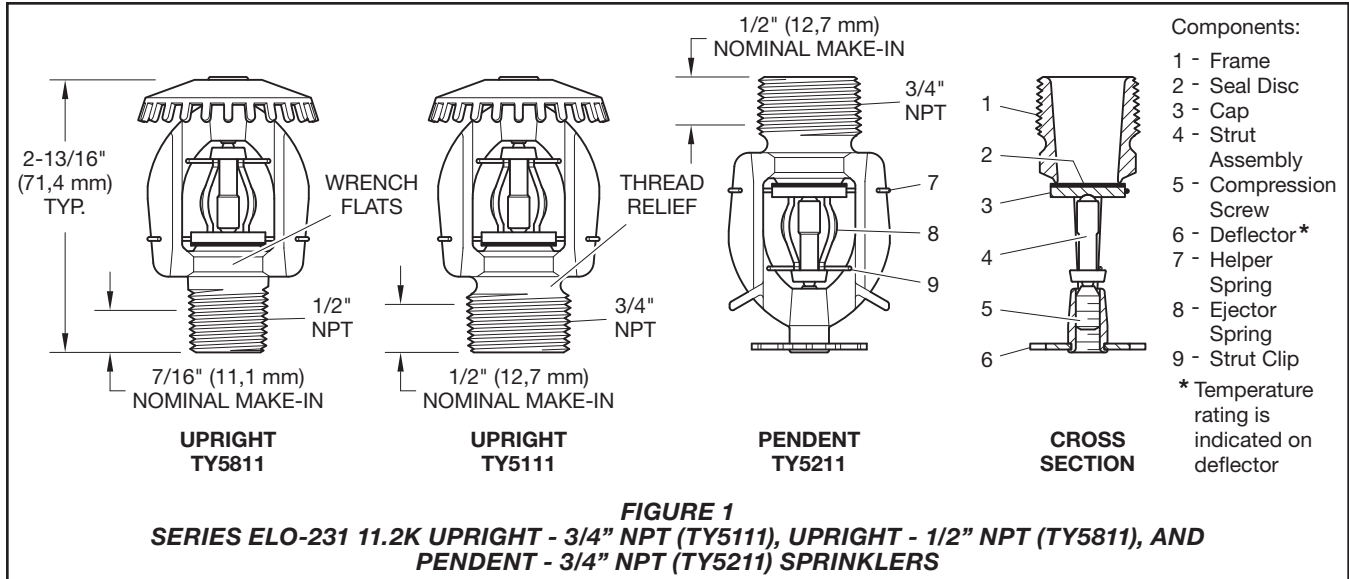
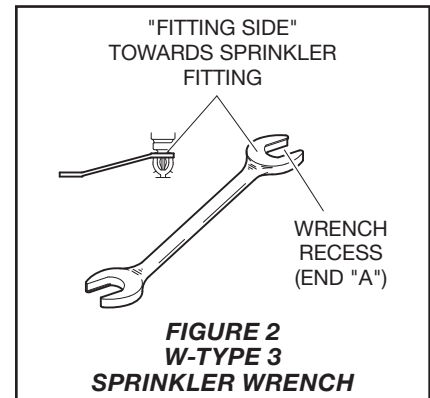

FIGURE 1
FIGURE 2
TYCO Series ELO-231 11.2K Standard Response, Standard Coverage Upright and Pendent Sprinklers (Ref. Figure 1) are automatic sprinklers of the fusible solder type. They are standard response, spray sprinklers that produce a hemispherical water distribution pattern below the deflector.
Step 3. Tighten the sprinkler into the sprinkler fitting using only the W-Type 3 Sprinkler Wrench (Ref. Figure 2), except that an 8 or 10 inch adjustable Crescent wrench is to be used for wax coated sprinklers. With reference to Figure 1, the W-Type 3 Sprinkler Wrench or the adjustable wrench, as applicable, is to be applied to the wrench flats.